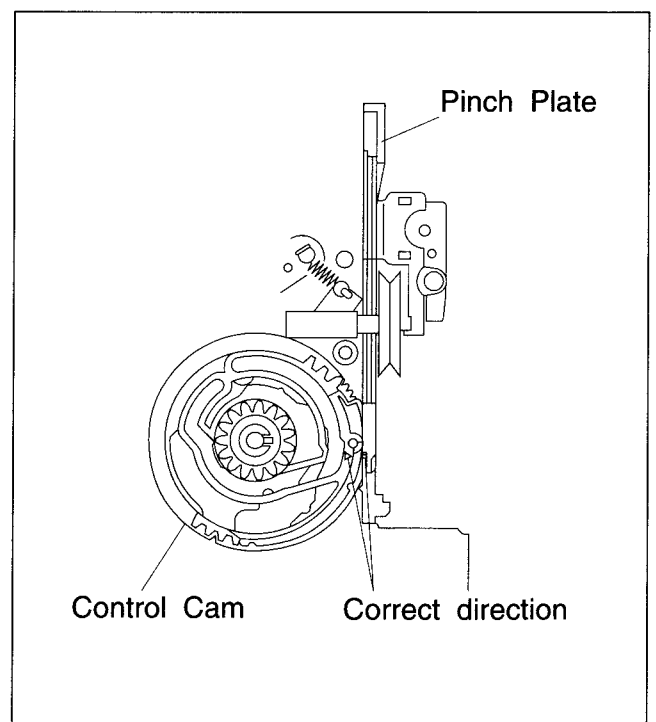

Fig. 1-5-6
- (1) When installing pinch plate, align rack of pinch plate and triangle mark of control cam as indicated in Fig.1-5-6.